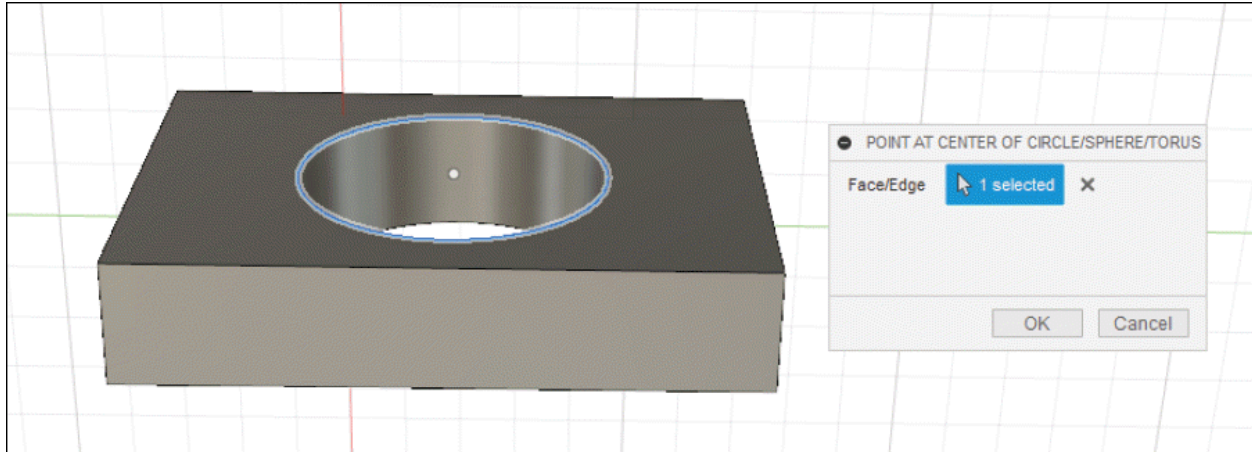

Figure-135. Preview of point at center
- Select the circle, or round face of sphere/torus to create the center point. Preview of point will be displayed; refer to Figure-135.